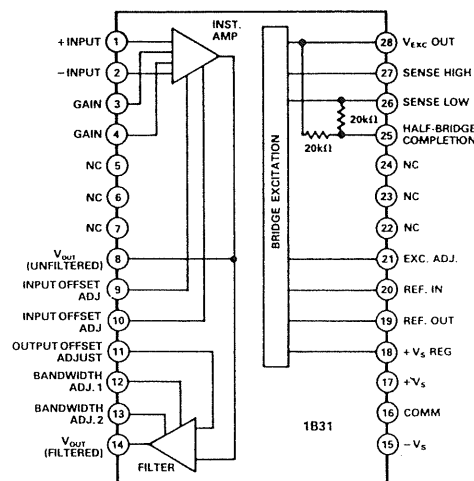

Figure 1. Block Diagram and Pinout
Model 1B31 is based on a two-stage amplifier design and an adjustable voltage regulator section, as shown in Figure 1. The front end is a low noise, low drift, instrumentation amplifier (IA) that is optimized to amplify low level transducer signals (from 2mV full scale) riding on high common-mode voltage (±9.5V). The gain of the IA is programmed by a single resistor (1V/V to 2500V/V) and the input offset nulled out by an external potentiometer across the offset adjust Pins 9 and 10. The inverted signal (V-INPUT - V+INPUT) is brought out to Pin 8 for applications such as vibration and torque testing where the unfiltered output is required.